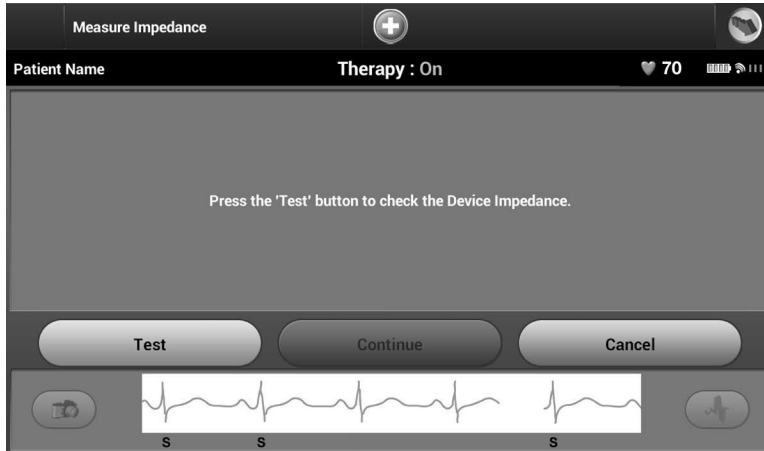

Figure 51: *Measure Impedance screen*
1. From the Utilities screen (accessible from the Main Menu screen), select the Manual Setup button. The Measure Impedance screen appears (Figure 51).